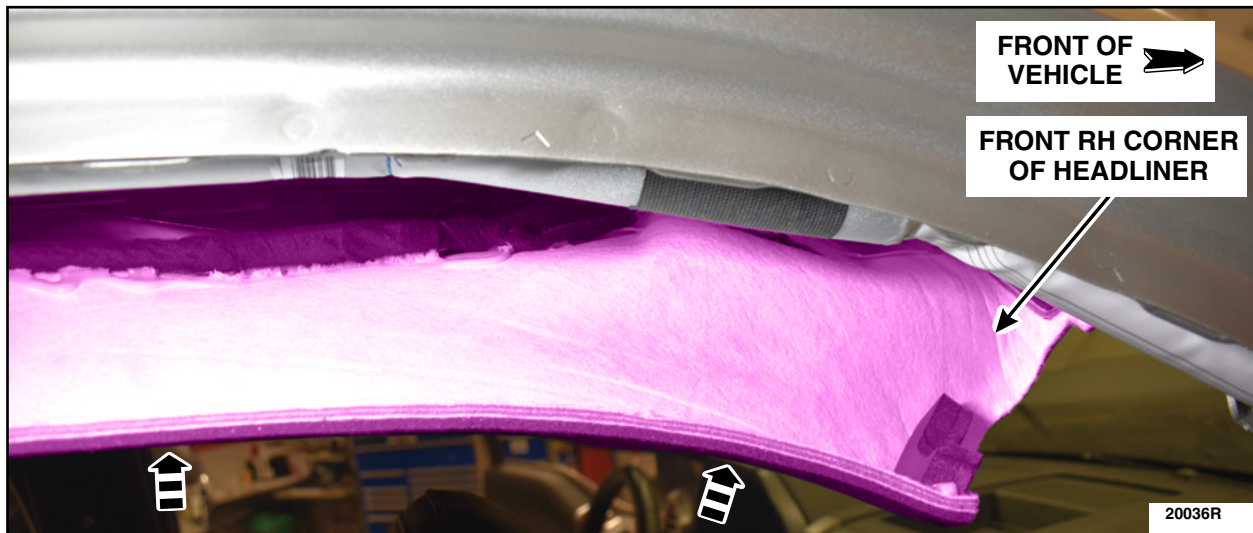

FIGURE 19
33. Position back the front RH corner of the headliner. See Figure 19.